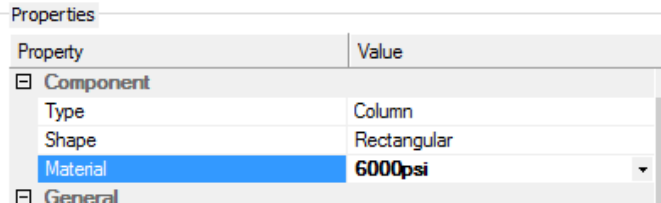

FIGURE 15-9
- For each section type, set the properties as shown **FIGURE 15-9**. Type = Column, Shape = Rectangular, Material = 5000psi for upper section types, and 6000psi for lower section types.